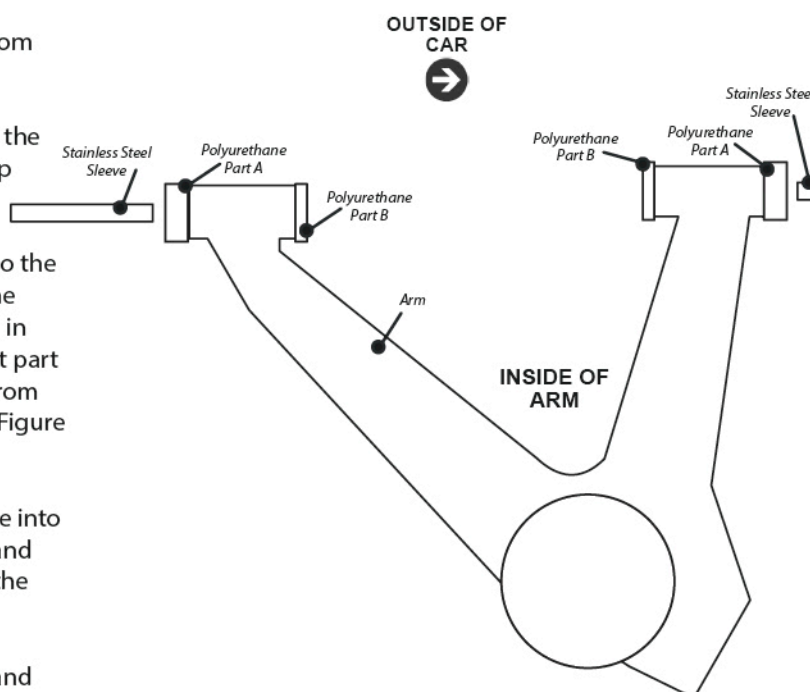

Figure 1 - diagram showing how the polyurethane bushes fit in the rear trailing arm
3. Push the polyurethane bushes into the bore of the arm, making sure that the bigger lip diameter bush, part A, fits in from the outside of the arm and that part B, smaller lip diameter bush fits in from the inside the arm on both bushes (Figure 1).